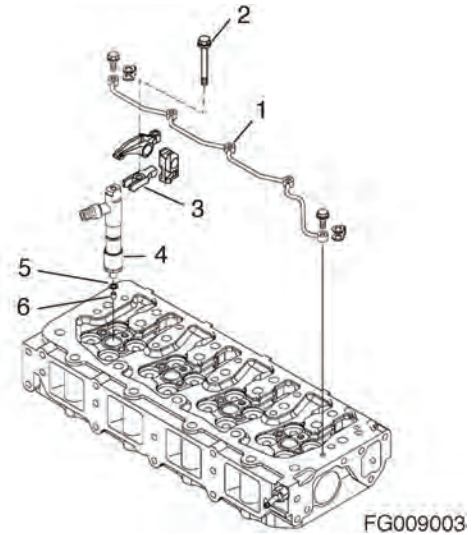

Figure 284
3. Remove the injector return line (1, Figure 284). Be careful not to bend the line.
4. Remove the fuel injector mounting clamp bolts (2, Figure 284). Lift the injector mounting clamps (3, Figure 284) away from injector.
5. Remove the fuel injector (4, Figure 284) from the cylinder head.
6. Remove the injector nozzle protector (5, Figure 284) and seat (6, Figure 284) from the cylinder head. Discard both items.